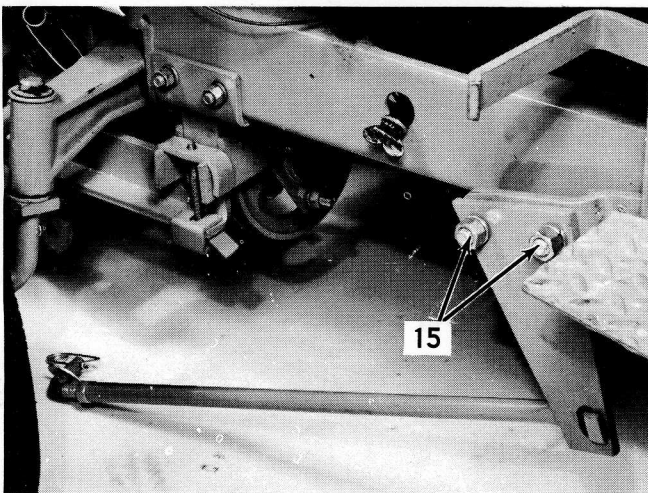

Figure 11. Installing the Lift Arms
14. Hook the lift arm assemblies into the lift lever extensions as illustrated in Figure 11.